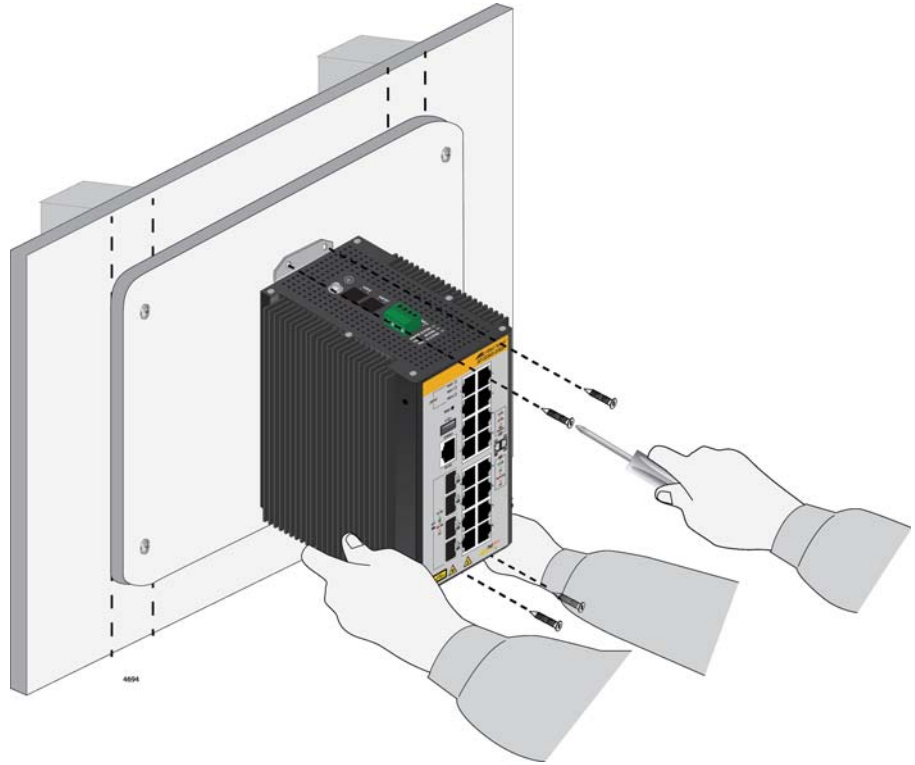

Figure 26. Attaching the Switch to the Plywood Base
4. Have another person hold the switch on the plywood base on the wall while you secure it with four screws (not provided). Refer to Figure 26 on page 78.
- ☐ The switch must be oriented as shown in Figure 26. Do not install the switch horizontally or upside-down.